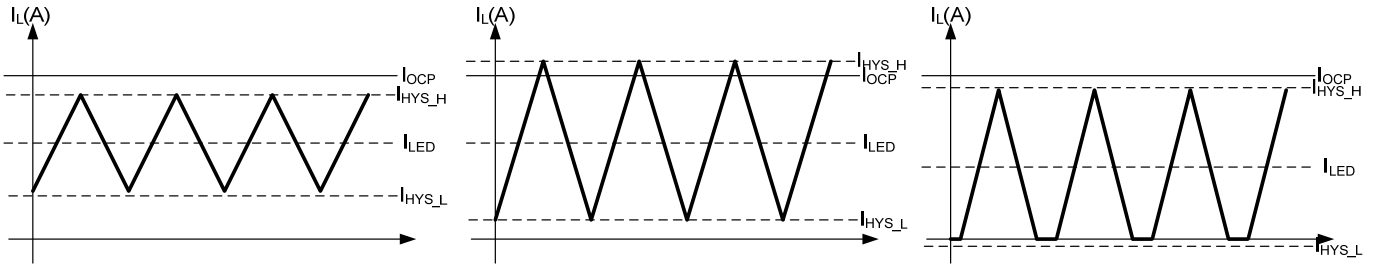

Fig.23 Normal setting ( $\Delta HYS < 0.5 \times I_{OCP}$ ) Fig.24 OCP trigger ( $I_{HYS\_H} < I_{OCP}$ ) Fig.25 DCM ( $I_{HYS\_L} < 0$ )
The minimum inductance can be calculated by substituting an appropriate  $\Delta HYS$  in equation (1). To prevent the inductor current from exceeding the over current protection threshold ( $I_{OCP}$ ), as shown in Fig.24, it is recommended to set the  $\Delta HYS$  to be lower than half of the over current protection threshold, as illustrated in Fig.23. If the inductor peak current exceeds the  $I_{OCP}$ , OCP function will be triggered as stated in the previous section. Once the inductor valley current is under zero, as illustrated in Fig.25, the system operates in discontinuous conduction mode (DCM), in which the output current accuracy is degraded.